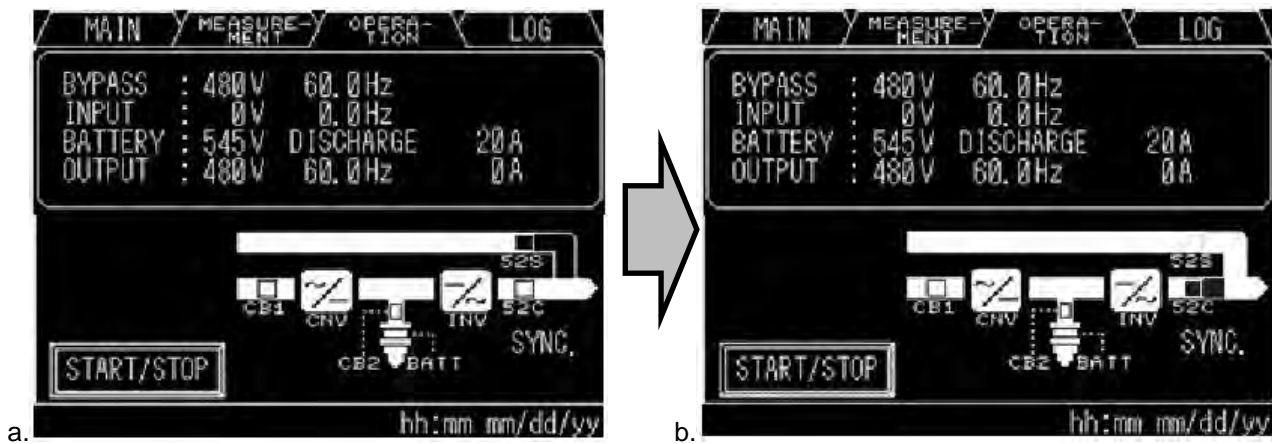

Figure 5-25 Transfer from Online to Bypass
- c.) The UPS transfers to Bypass. (Figure 5-25) The Bypass contactor (52S) closes and the Inverter contactor (52C) opens. (Figure 5-25b)